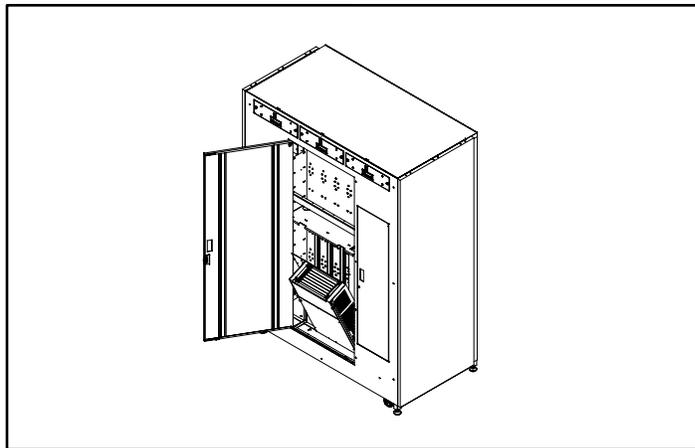

Figure 9: Tilting the electronics bay out
3. Loosen the two captive screws at the top of the electronics bay frame and tilt the electronics bay out of the cabinet (see Figure 9).